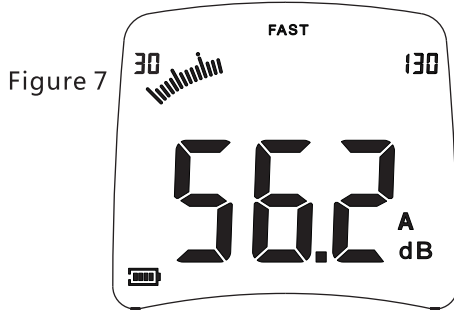

Figure 6
- If the current sound level is over 130dB, the LCD will display **OVER** to indicated the current Lp is over measurement range, as figure 6: